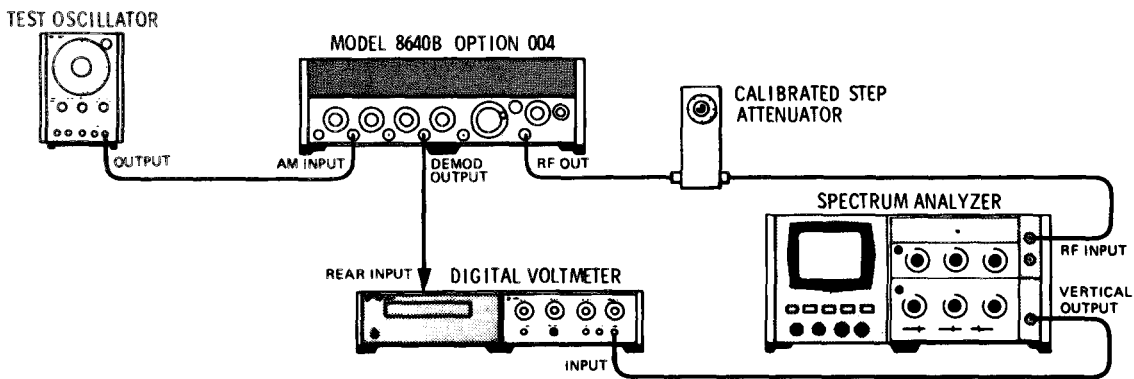

Figure 5-4. AM Accuracy Adjustment Test Setup
- Connect the equipment as shown in Figure 5-4, after setting the Signal Generator controls as follows: